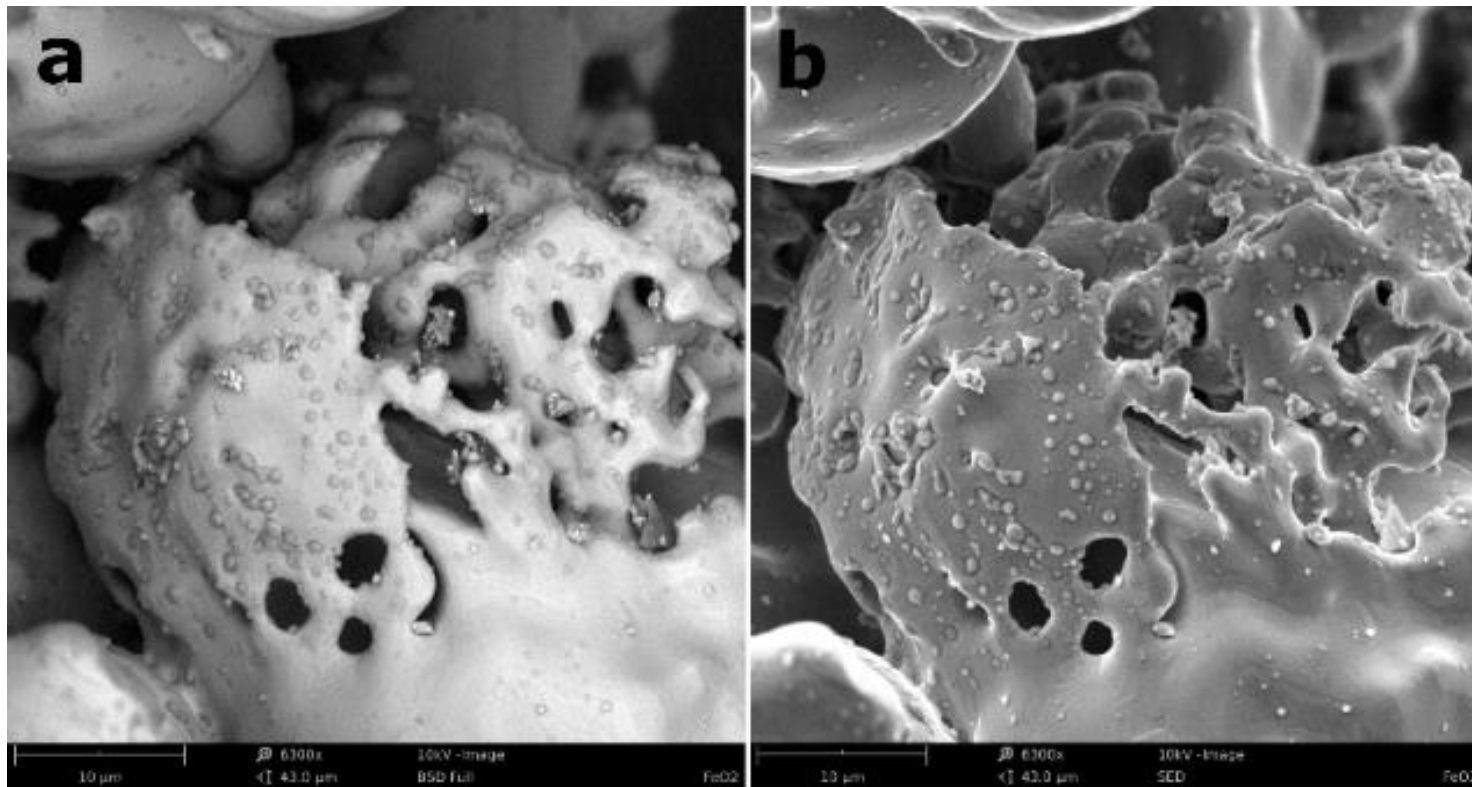

Figure 3: a) BSE and b) SE image of the FeO_2 particles
- SE imaging can provide more detailed surface information — something you can see in Figure 3.